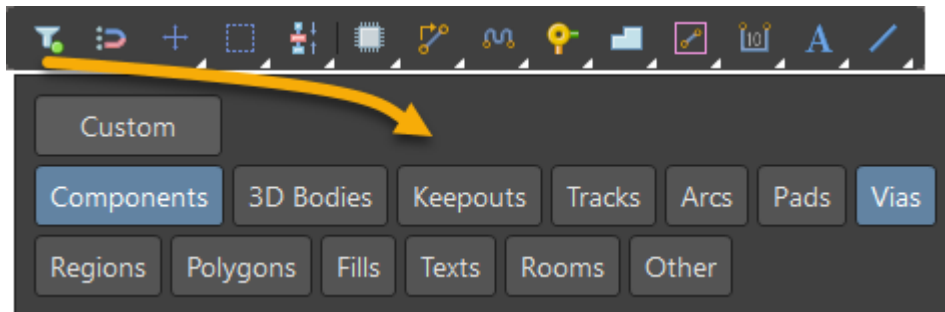

Figure 1. Enable All Objects in the Selection Filter
14. Later you can re-set the filter in the *Active Bar*, as shown in Figure 1.